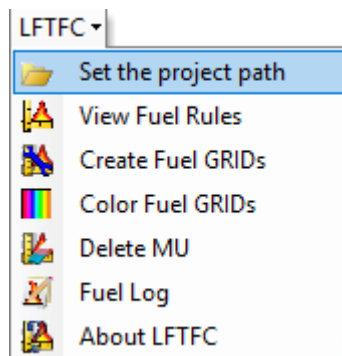

Figure 7-6. Use the drop-down menu to select **Set the project path**.
- To create a directory, click the drop-down menu on the LFTFC toolbar and select “**Set the project path**” (Figure 7-6).